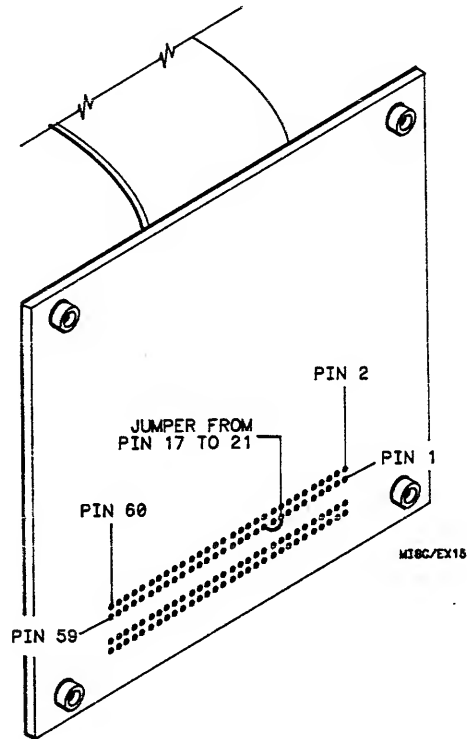

Figure C-2. Circuit Side of the PC Board
3. Solder a jumper from pin 17 of J3 to pin 21 of J3. Figure C-2 shows the location of the jumper on connector J3 from the circuit side of the PC board.